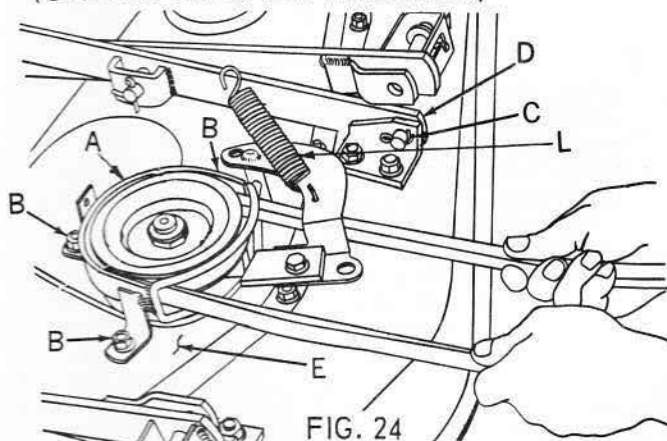

FIG. 24
1. See Fig. 24. Remove belt guide (A), at center mandrel by removing 3 nuts (B).